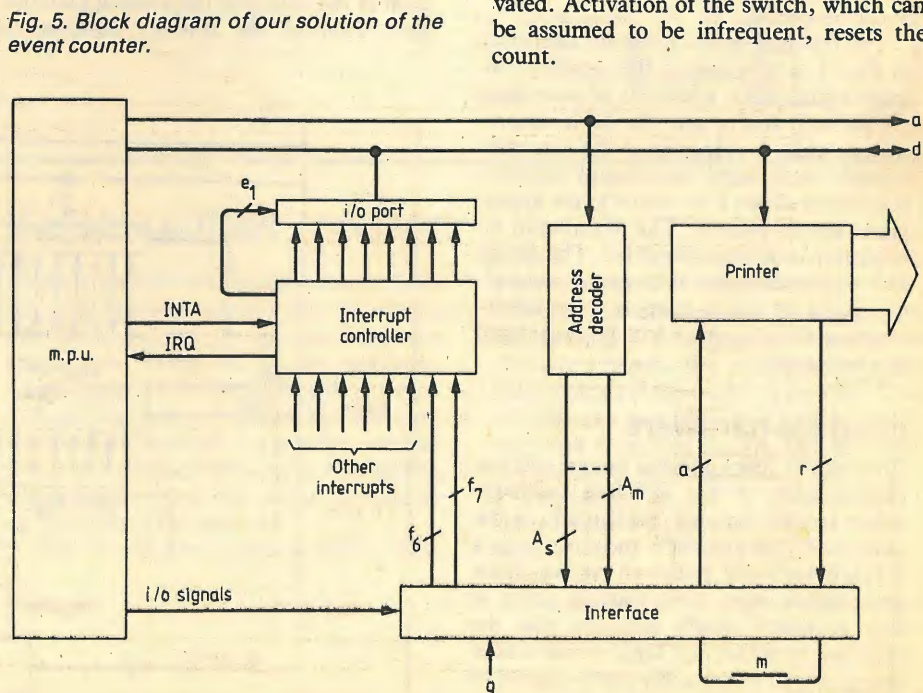

Fig. 5. Block diagram of our solution of the event counter.
event is detected, and a PRINT routine each time switch *m* is activated, as shown in Fig. 4. The COUNT routine will be given a higher priority than the PRINT routine should signals *q* and *m* be both present before the program is interrupted. The block diagram of our solution is shown in Fig. 5.
Step 4: hardware design. Reference to Fig. 5 shows that the basic functions of the interface hardware is to generate interrupt